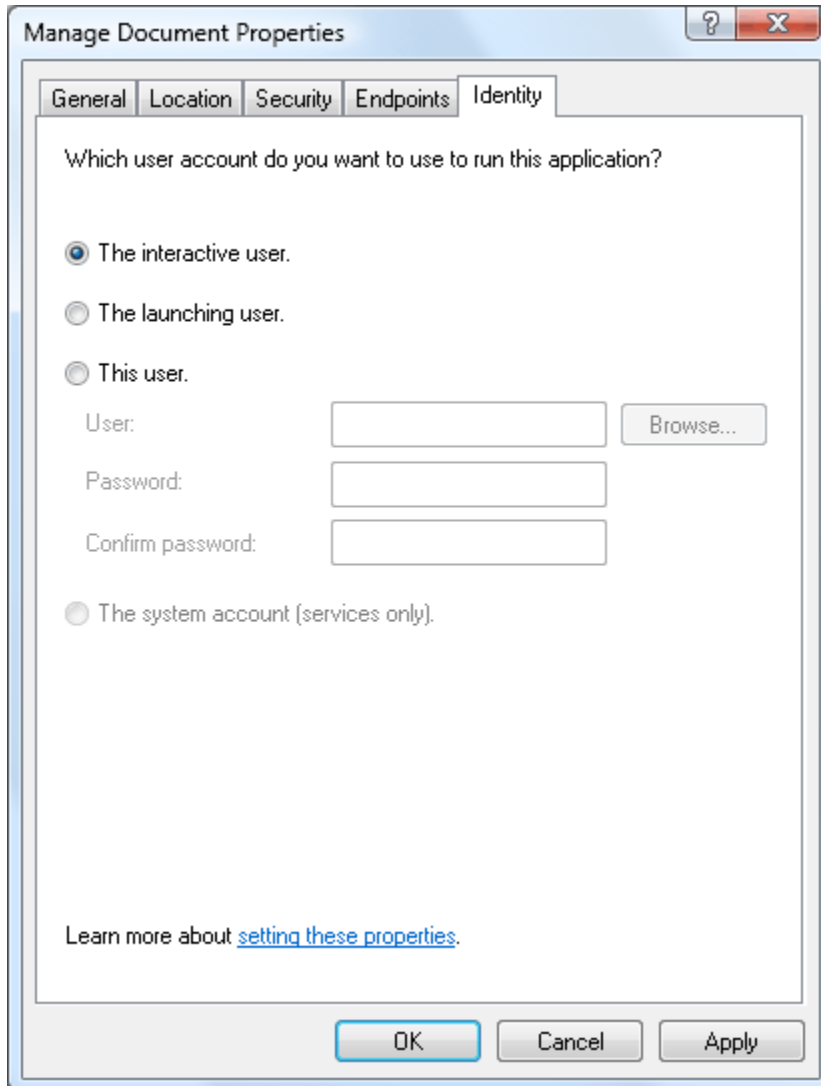

Figure 18: Manage Document Properties Window-Identity Tab
4. Select the **Identity** tab, as shown in Figure 18.